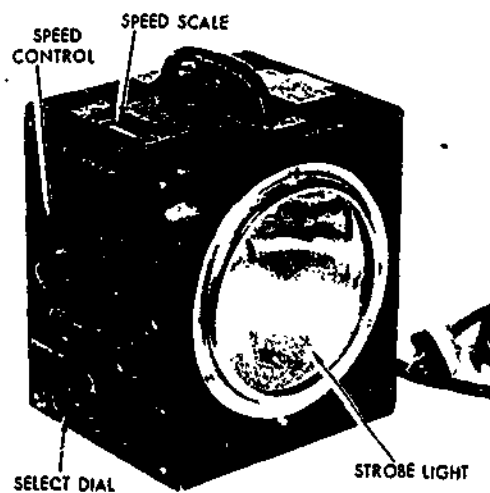

Figure 5. Stroboscope.
(2) Connect the power plug on the control panel to a 28V DC outlet.
(3) On the stroboscope (refer to figure 5), place the select dial to the first STROBOSCOPE HIGH position. Plug the power cord of the stroboscope into a 115V AC, single phase, 60Hz outlet. The stroboscope light should begin to flicker, if it doesn't, call your instructor.